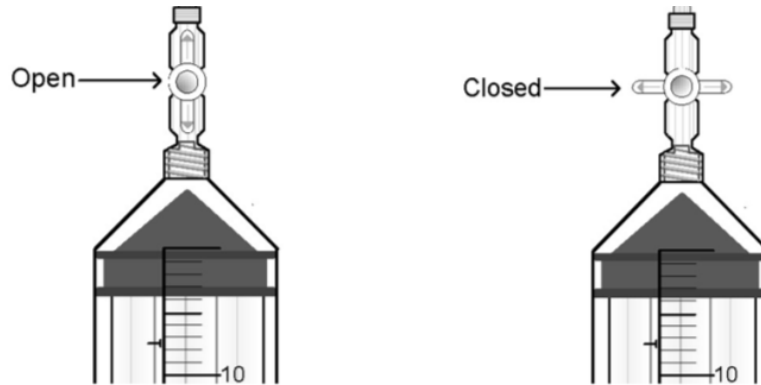
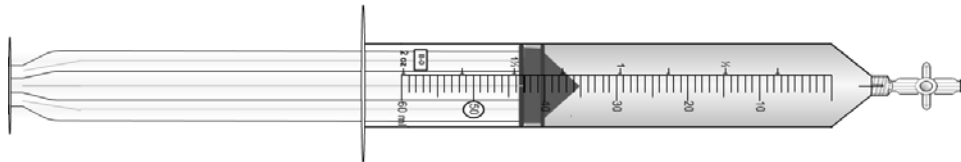

Figure 8. Example of a syringe and stopcock in the "open" and "closed" positions
Figure 9. A syringe with a 40 mL water sample
17. RINSE: Place the syringe tip (with 1-way stopper attached and turned to open; Figure 8) into the stream so that you are sampling the water ~10 cm under the surface of the water. Pull in ~20 mL water and remove syringe from stream. Rinse the syringe by pulling the stopper all the way back (without removing it) and shake. Expel the rinse water downstream or onto the bank. Repeat.
18. **SAMPLE:** Put the syringe tip back into the water, below the surface, and pull the plunger until the syringe is completely full. Remove the syringe and tap the sides of the syringe firmly with your hand/fingers to remove the air bubbles. **EXPEL** water, leaving approximately 1 mL in the syringe, which will help reduce air intake on the next sampling. Put the syringe back in the water, expel the final 1 mL of aerated water below the stream surface, and slowly fill to the 40 mL mark, being careful not to entrain any air bubbles (Figure 9). Immediately turn the 1-way stopper to the closed position before removing the syringe from the stream (Figure 8). Take 5 separate syringe samples all within the main flow of water. Place the syringe in a small cooler to help maintain stream temperature at time of collection.